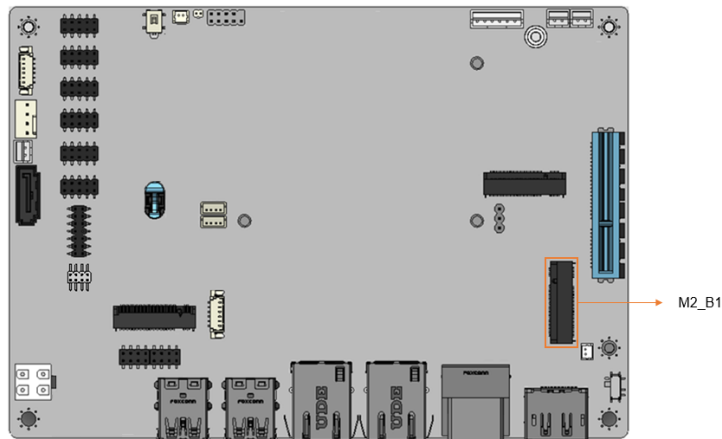

Figure 3-16: M.2 B-key Slot Location
- CN Location:** See Figure 3-16